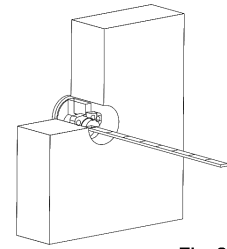

Fig. 2
2. Remove the key and insert the cylinder through the outer ring and insert it through the hole. **(See Fig.2)**